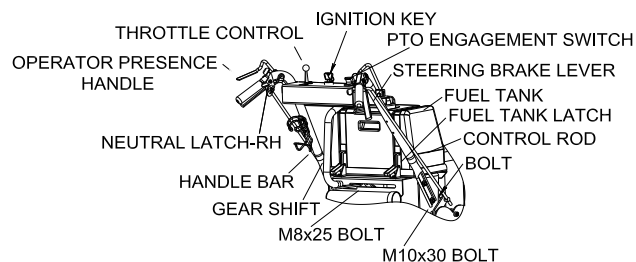

FIG 5
- Attach the handle with four M10 x 30 Hex Hd Bolts and Locknuts as shown in FIG 5.
- Each of the control rods must be connected. Follow the instructions to properly adjust each of the controls as shown in FIG 5.
- Place the fuel tank according to FIG 5 and lock the fuel tank latch.